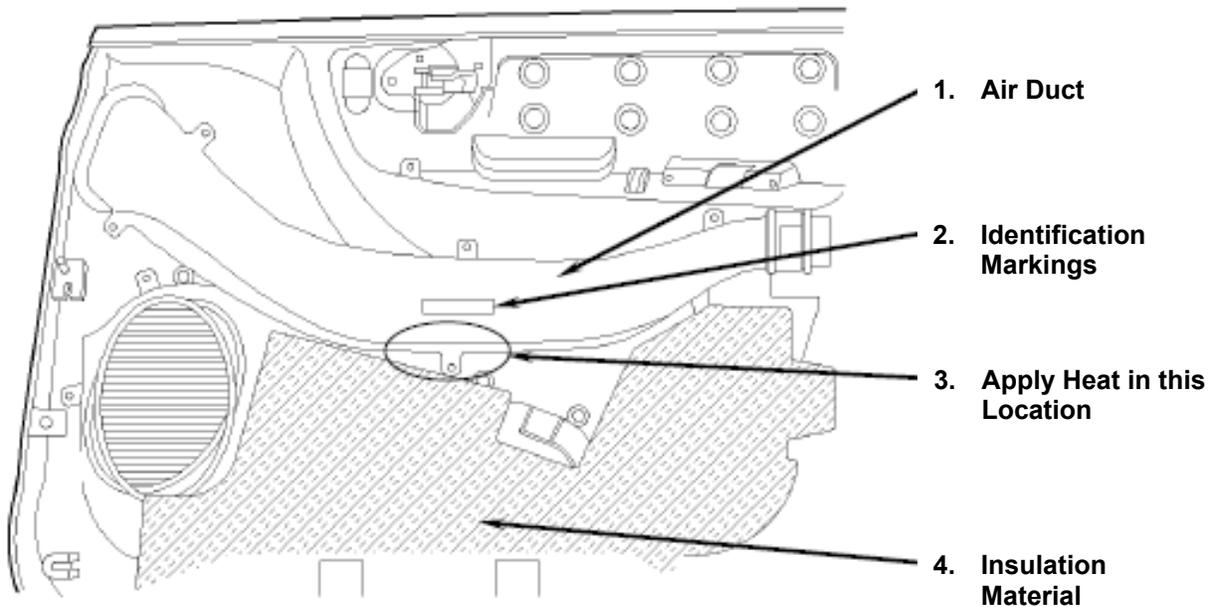

Figure 1
2. See figure 1; Remove any insulating material over the duct area to be heated.